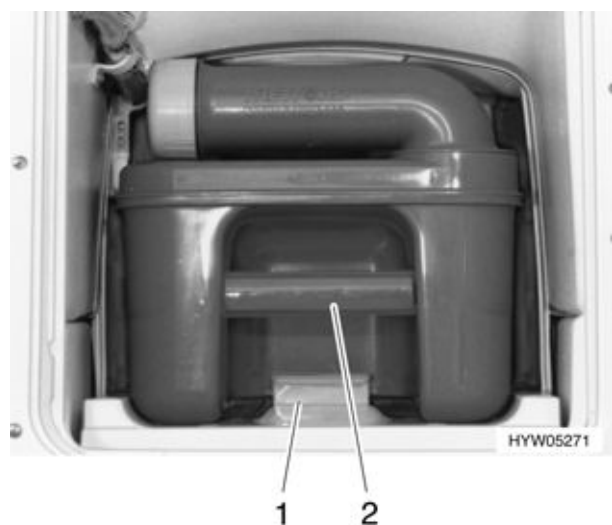

Fig. 167 Removal of the Thetford cassette
- Release safety catch (Fig. 167,1) and pull out the Thetford cassette (Fig. 167,2).